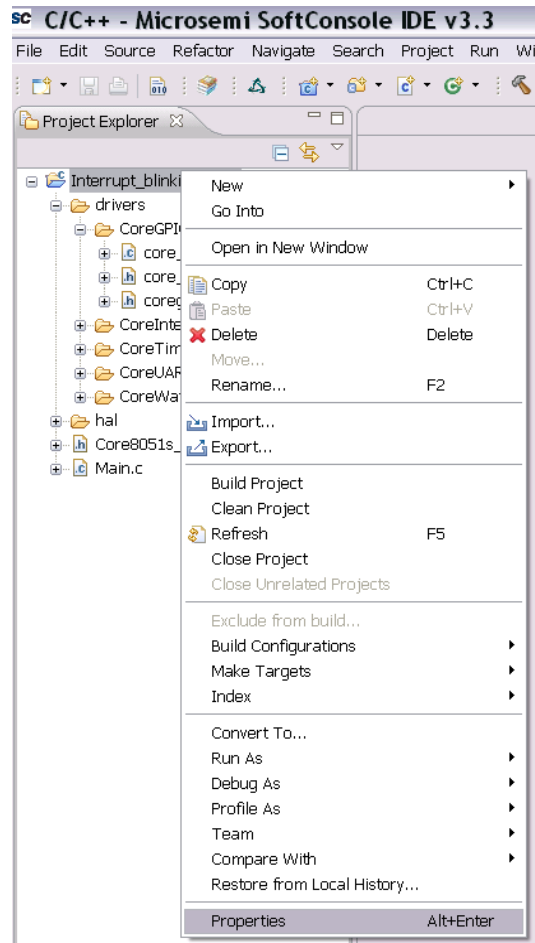

Figure 29 Setting the Project Properties
2. Open the project properties window (Project → Properties), as shown in Figure 29.